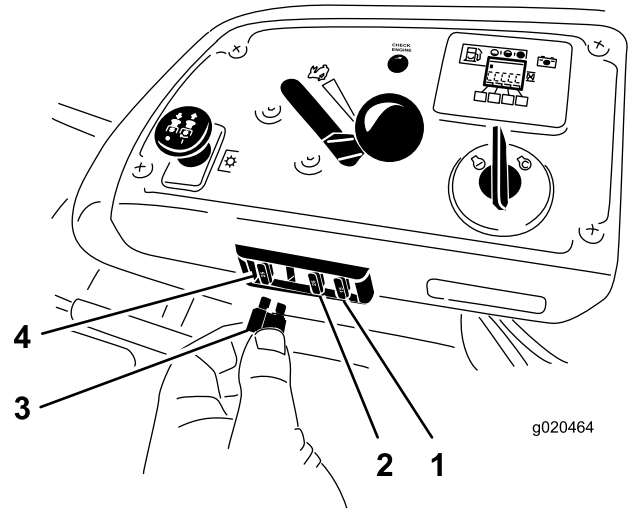

Figure 56
- The fuses are located on right console next to the seat (Figure 56).
- Install a new fuse (Figure 56).